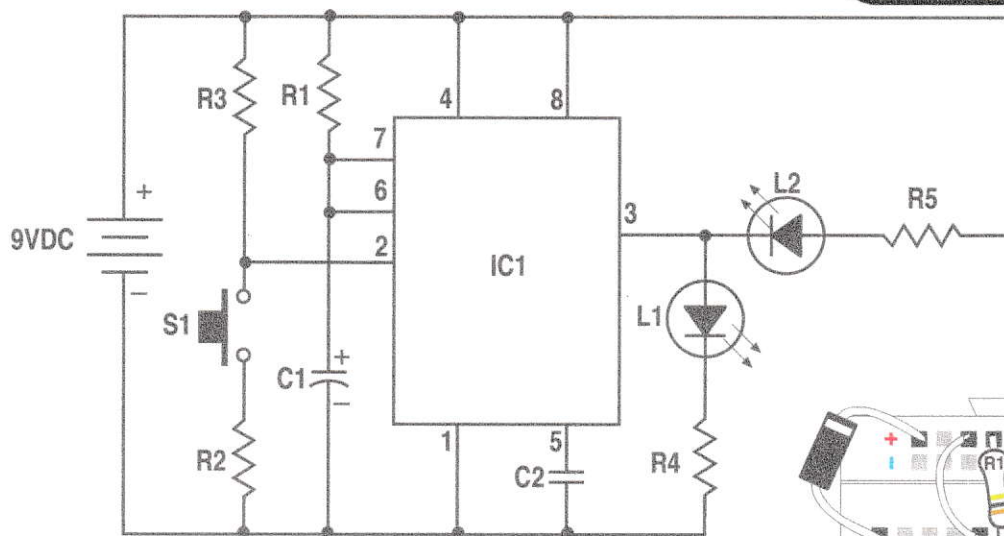

Figure 2 - Schematic Diagram
The schematic diagram of figure 2, shows the circuit of the timer that you are going to build in this experiment. This circuit has a "time ON" period, determined by the values of R1 and C1, of approximately 1.1 second. Notice that the trigger pin (pin 2), is connected to positive (High) through R3, a 10K resistor. When pushbutton S1 is open (not pressed), pin 2 is High, the timer is not activated, and the output (pin 3), has a Low logic level. When pushbutton S1 is pressed, pin 2 becomes Low (0). It gets connected to ground through R2, a 1K resistor, and to positive through R3, a 10K resistor. This Low on pin 2 triggers the timer, and its output (pin 3) goes High for approximately 1.1 second. After this period, pin 3 becomes Low again. It will remain Low until pushbutton S1 is pressed again. We have connected a red and a green LED (L1 and L2) at the output of the timer, with their corresponding limiting resistors R4 and R5. When the timer is not activated (pin 3 Low), the green LED (L2) is ON and the red (L1) is OFF. When the timer is activated (pin 3 High), the red LED (L1) is ON, and the green LED (L2) is OFF. Now you are ready to build the timer.
- The output of the timer built in this experiment (Figure 2), remains Low (0), until a Low (0) is applied to the trigger input (pin 2), by pressing pushbutton S1. When this occurs, the output goes High (1), for a time period determined by the values of R1 and C1.